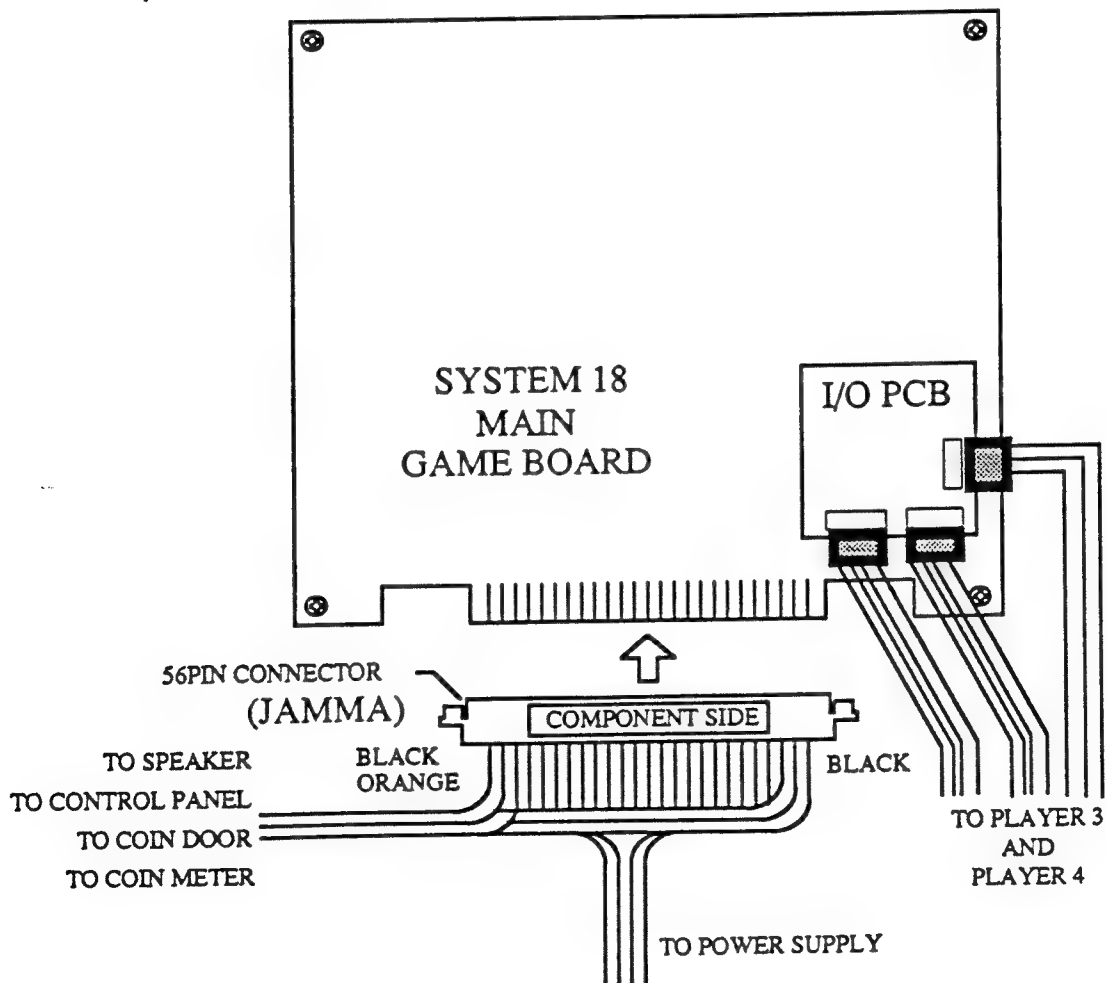

FIGURE 8
**NOTE:** The proper orientation of the connector (see figure 8). If not connected properly, the system will not function and damage can occur to the PCB.